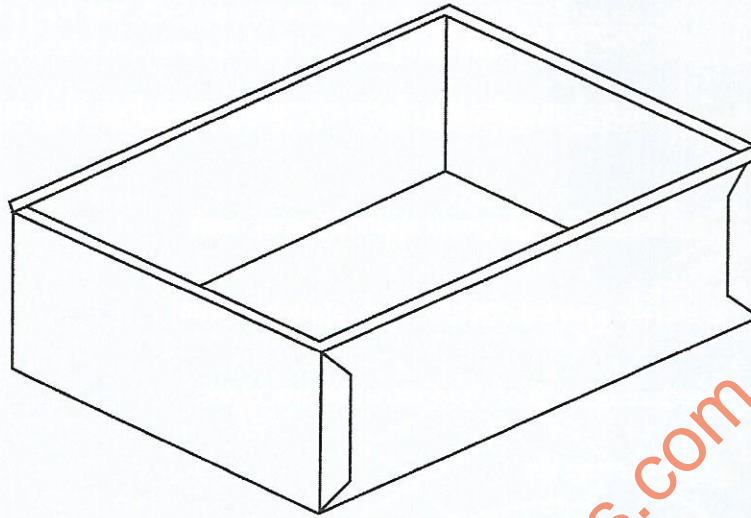

Figure 3
15. **Figure 3** shows a container made from galvanized sheet metal.